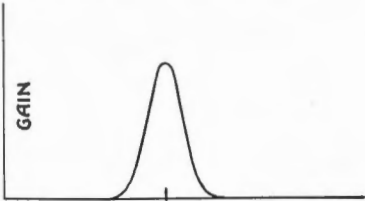
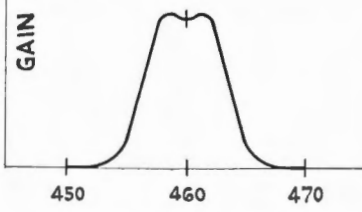
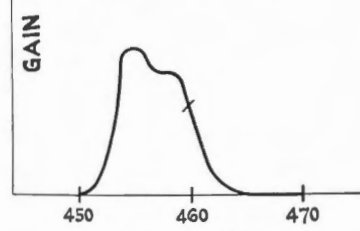

Figure 1
Figure 2
Figure 3
A transformer of the type of Figure 6-(B) may be used in place of the single-wire transformer as used with the original RCA World-Wide Antenna System, Stock No. 9500, and as illustrated schematically in Figure 2 and noise pick-up on the transmission line lead-in eliminated over the entire frequency band. Without further change, however, the pick-up is too weak for broadcast band (550 KC to 1500 KC)
One of the first and perhaps most important uses which presents itself is that of visual alignment of receivers. For this application a test oscillator and a small motor-driven capacitor are required in addition to the oscillograph. If the motor-driven capacitor is connected in parallel with the tuning capacitor of the test oscillator, we have a source of radio frequency voltage which is varying at a uniform rate. The average frequency of this source may be adjusted to any intermediate or radio frequency within the range of the equipment. If this source of voltage is applied to any of the i. f. or r. f. stages of a radio receiver there will appear across the detector output circuit an a. c. voltage depending in amplitude upon the selectivity curve of the receiver. If this voltage is applied to the vertical deflecting circuit of the oscillograph and the timing axis adjusted to the same frequency as represented by the rate of rotation of the motor-driven capacitor, the response curve (Figure 1) of the receiver will appear on the screen. If the response characteristic of the receiver or amplifier stage under test is double humped the curve will be as in Figure 2. These curves represent proper alignment. If the transformers are improperly aligned a curve such as Figure 3 might appear on the screen.